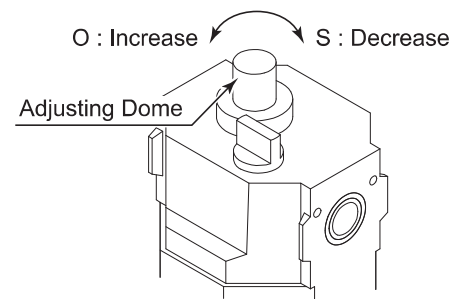

Fig. 5
(3) Adjustment of Oil Drip Rate (Fig. 5)
- ① Set the air pressure to the air motors recommended maximum air pressure.
- ② Adjust the Oil Drip Rate to the recommended volume which is 1 to 3 drops / min.